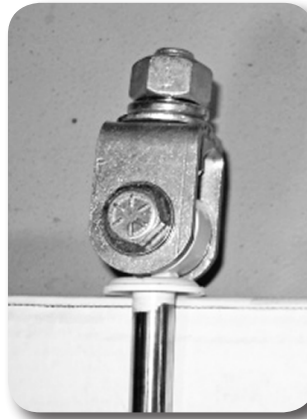

Figure 7
14. Shocks will require a stem eliminator bracket to be installed and tightened on the shock before installation. The hardware is in bolt pack 946 included in the shock box. Fig. 7